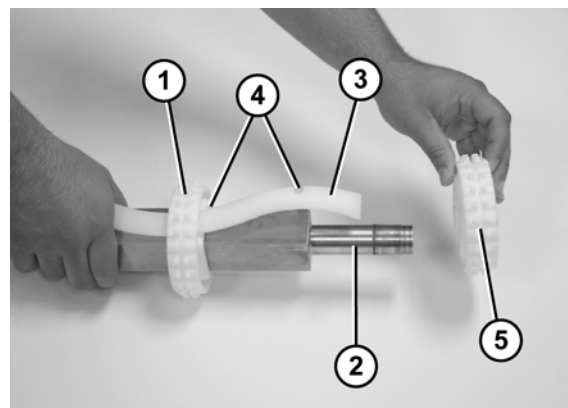

Figure 71
1. Slide the first sprocket (Figure 71, item 1) onto the drive spindle (Figure 71, item 2).
2. Insert the sprocket alignment bar (Figure 71, item 3) into the first sprocket and align the sprocket with the notch (Figure 71, item 4) in the sprocket alignment bar.
3. Slide the remaining sprockets (Figure 71, item 5) onto drive spindle and align each sprocket with the notches (Figure 71, item 4) in the sprocket alignment bar.